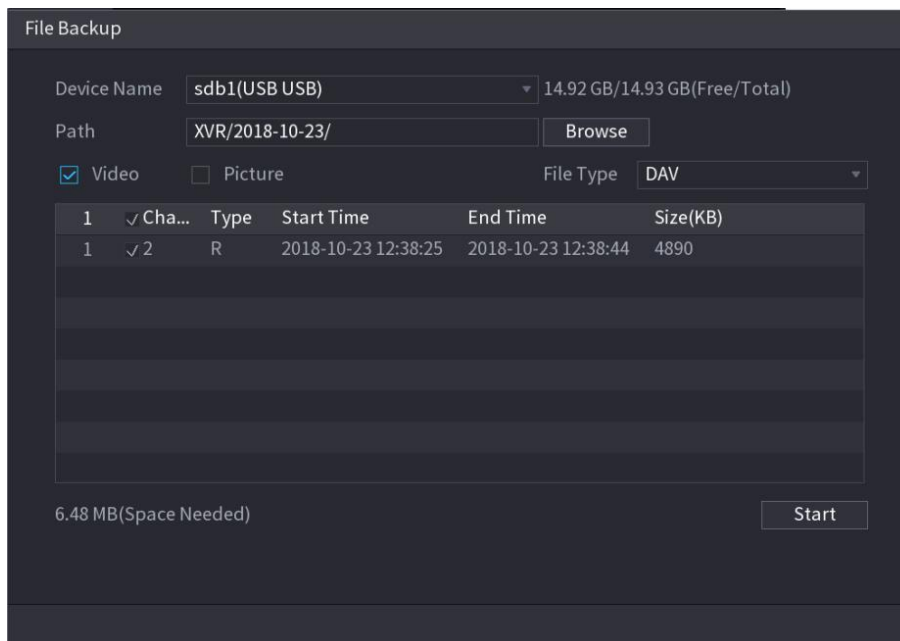

Figure 5-157
- To back up the recorded files to the external storage device, select files, click **Backup**, select the save path and file type, and then click **Start**. See Figure 5-157.